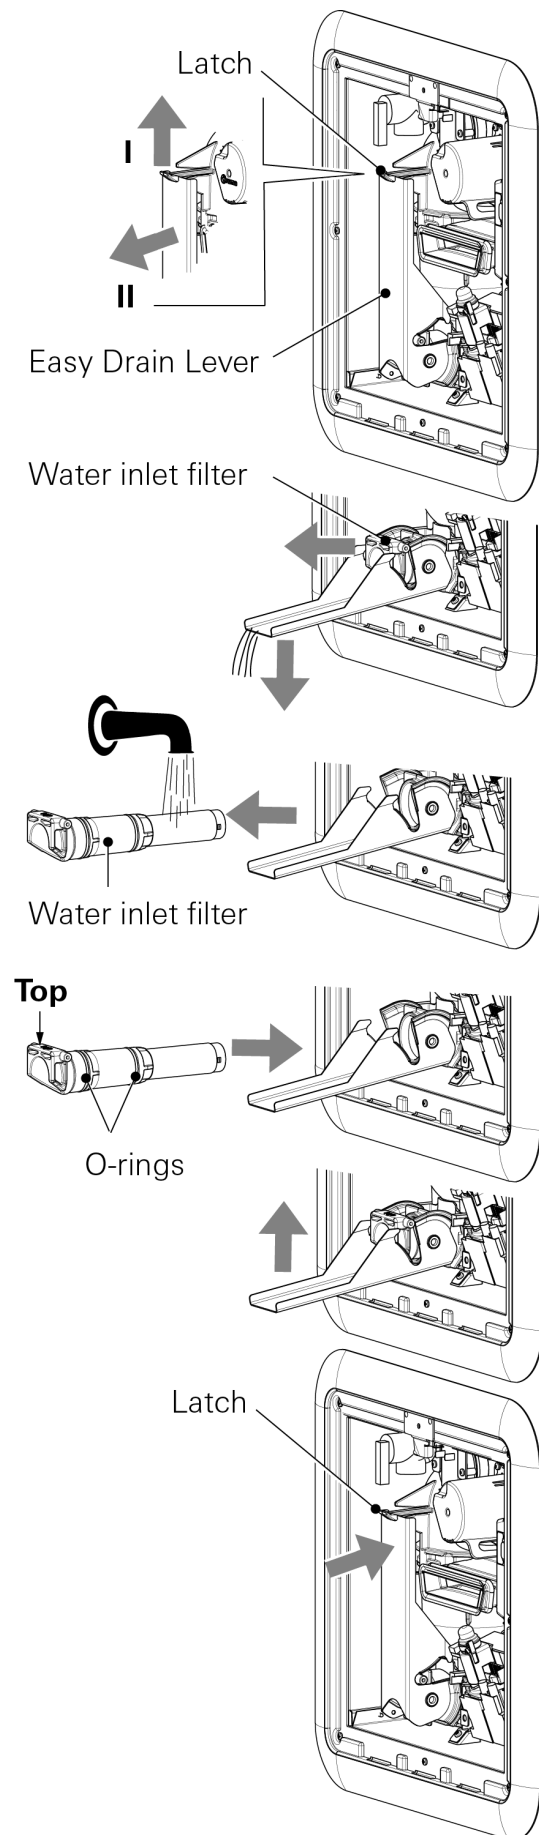

Fig. 9
7. Remove the water inlet filter as shown in Fig. 9 and clean it with clean water.
9. Install the water inlet filter as shown in Fig. 9. Observe the correct installation position and close the Easy Drain Lever until it is locked by the latch.